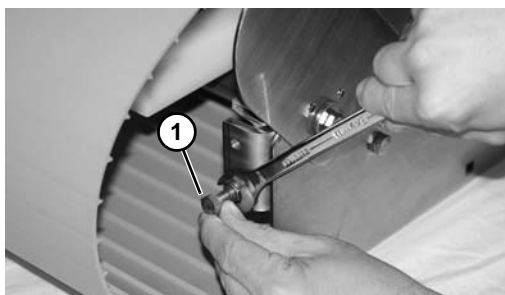

Figure 20
*Loosen nuts and adjust screws (**Figure 20, item 1**) to level tail (as needed).*